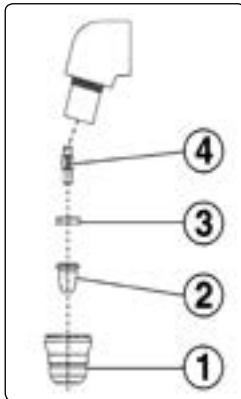

fig.5
- **WARNING!** Ensure that the torch is cool before attempting any maintenance. Always re-assemble the torch in the correct order as shown in (fig.5). Never use tools to tighten nozzle components, hand tighten only.